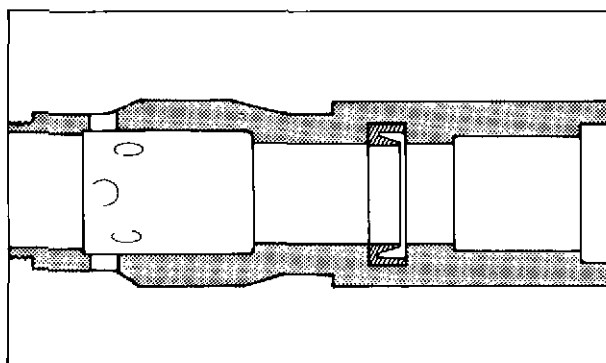

Fig. 12 Pinion sleeve oil seal
10. When correctly installed, the seal lip must be facing towards the pinion teeth as shown in fig. 12.